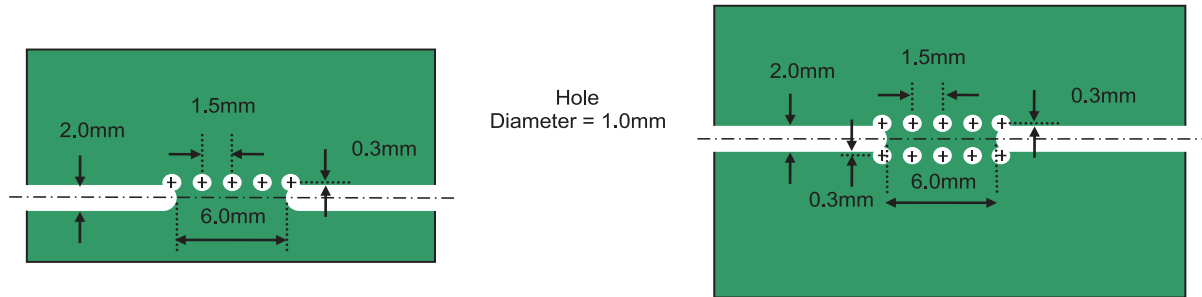

Figure 36: Stamp hole design parameters.
- [72] The distance between the centers of adjacent stamp holes should be 1.5mm. Recommended distance between the two groups of stamp hole is 5mm, as shown in figure 36.